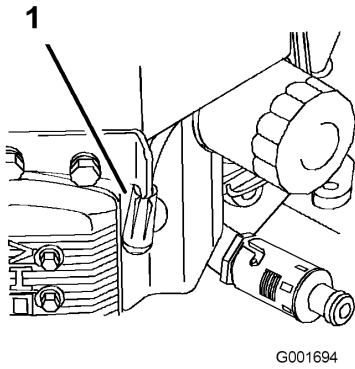

Figure 36
3. Disconnect the wires from the spark plugs (Figure 36).